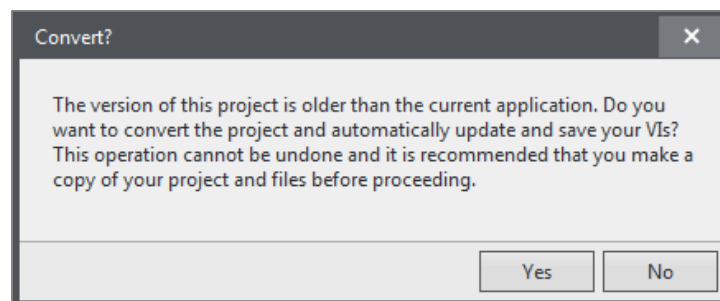

Figure 1: Convert? Dialog
3. Click **Yes** to convert as shown in Figure 1.